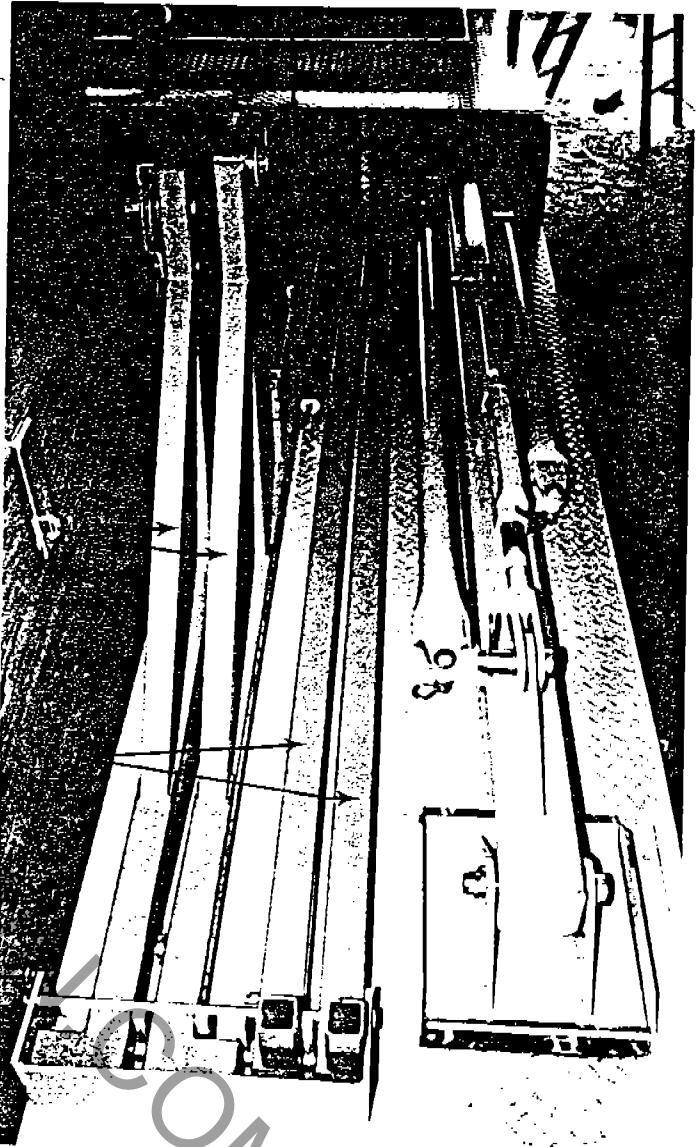

Fig. 44
- a. Right side of the top storage deck. (Fig. 44)
- (1) Racks #1 and #2: Electric sign side support brackets.
- (2) Racks #3 and #4: Electric sign cross support bars.